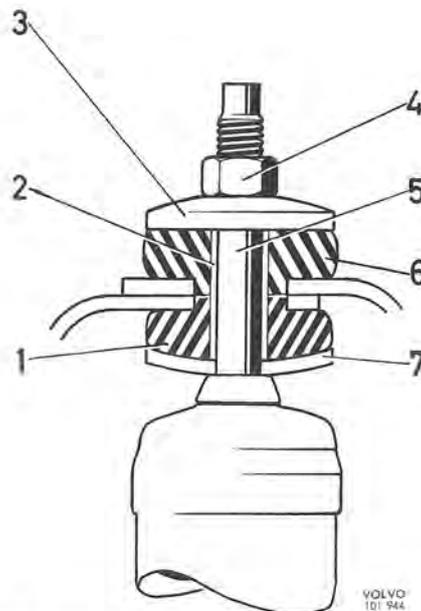

Fig. 7-7. Upper attachment, front shock absorber
3. Check the rubber bush and lower washer (1, and 7, Fig. 7-7) of the upper shock absorber attachment. Place the shock absorber in position and tighten its attachment.
The front shock absorber upper attachment (Fig. 7-7) consists of a spindle (5), which with upper bushes (1 and 6), washers (3 och 7) and a spacing sleeve, are fixed into a housing in the front axle member.
1. Remove the upper nut (4, Fig. 7-7), the washer (3) and the rubber bush (6).